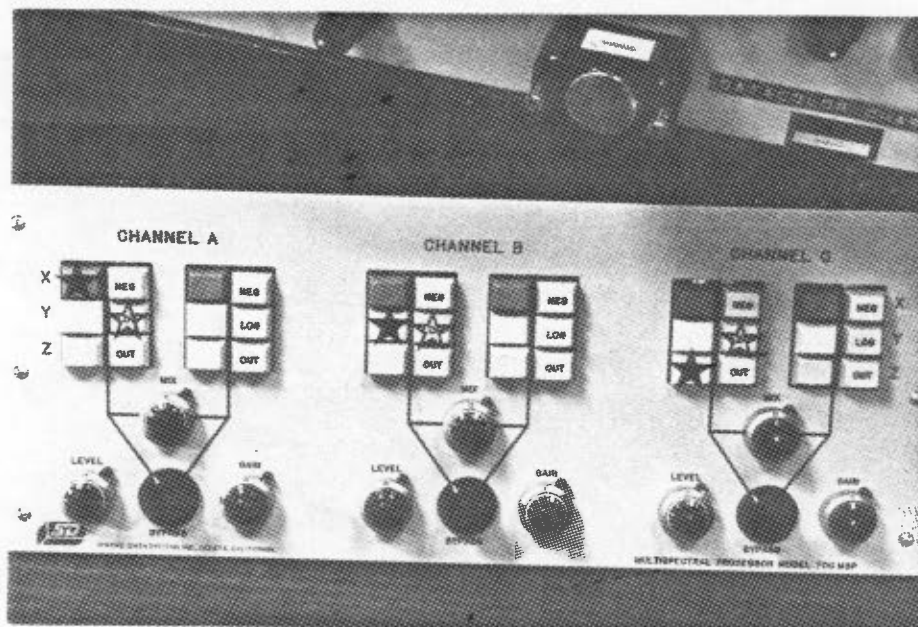

FIGURE 6.2. MSP - Right Chassis - Calibration Set-Up
1. All buttons to be activated are indicated with a star  on the figures. On the X column of the Input Switching Matrix (ISM) push the scanner button (blue colour) and adjust the SET-UP dials on the X, Y, and Z columns of the ISM to read 1.8 (Figures 6.2 and 6.1).